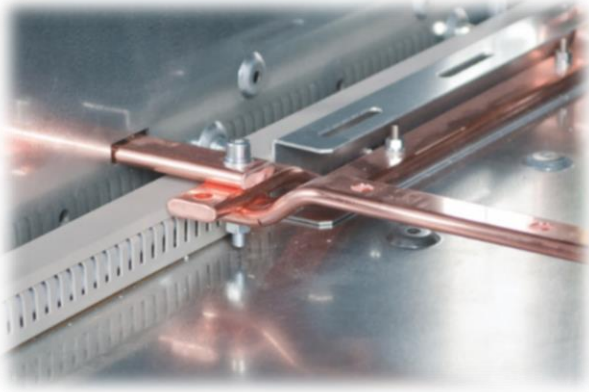

Fig.7.5. Earthing busbar inside switchboard
- Position the busbars supplied loose in the cable compartment and fix with M12x65 bolt using the bolt torque chart (Table 7.1). Refer to Fig.7.5.